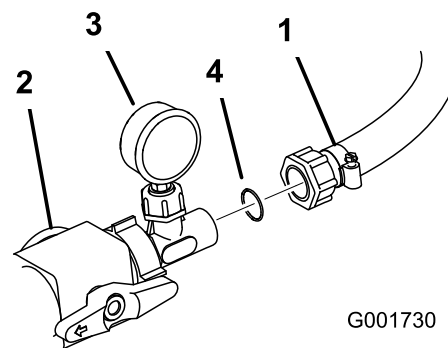

Figure 15
15. Install a plastic O-ring between the pressure gauge assembly and hose leading to the reel assembly. Connect the hose to the assembly (Figure 15).